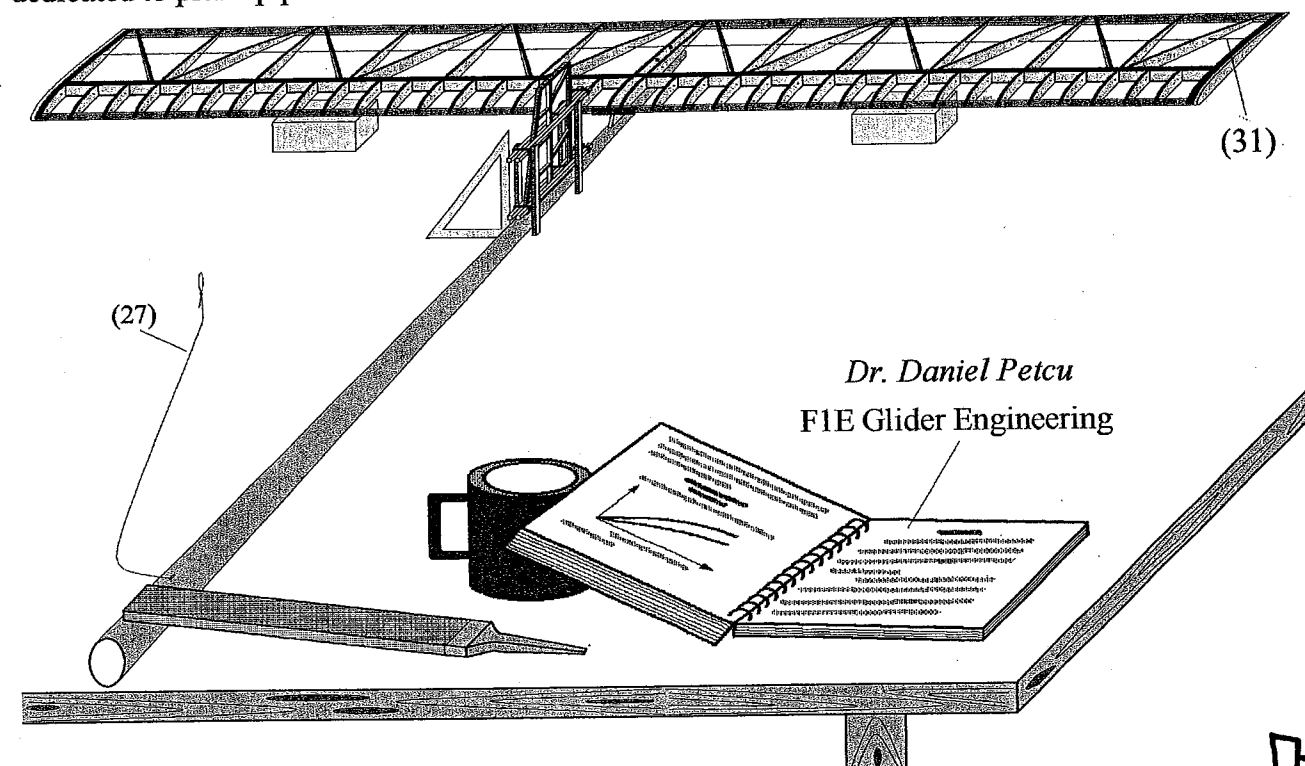

Figure 14. Fin Sticking Procedure
The fin shall be stuck onto the fuselage after the horizontal tail group has been mounted, taking care that a  $90^\circ$  angle (figure 14) should occur between them. Should we introduce through the rib block processing orifices the “inner stormer” made of red thread (31), then the dust pan dedicated to pick up pieces of a model in case of accidents will become absolutely useless.